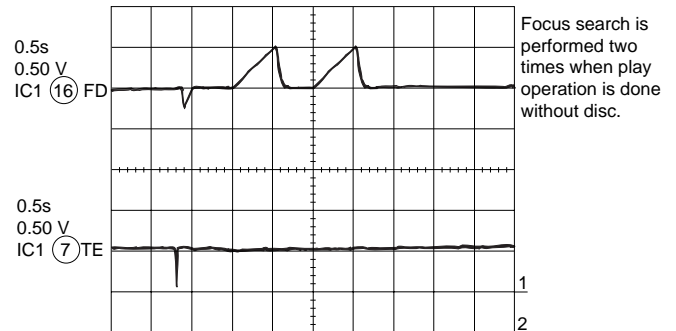

Figure 35-1
Does the output waveform of IC1(16)(FD) match that shown in Fig. 35-1?